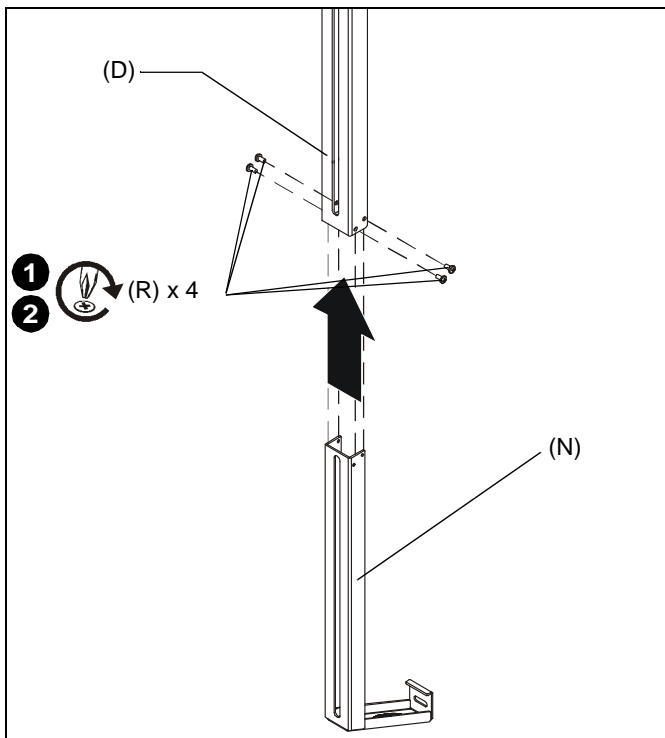

Figure 1
- If the WBM2E uprights will be **attached** to the wall below the existing chalkboard or whiteboard, **proceed to Step 1** and use the fixed wall leg (N).
- If the WBM2E uprights will **rest against** the existing chalkboard or whiteboard, **proceed to Step 4** and use the lower support (T).
1. Attach fixed wall leg (N) to bottom of upright assembly (D) using four #8 x 1/2" Phillips self-tapping screws (R). (See Figure 1)